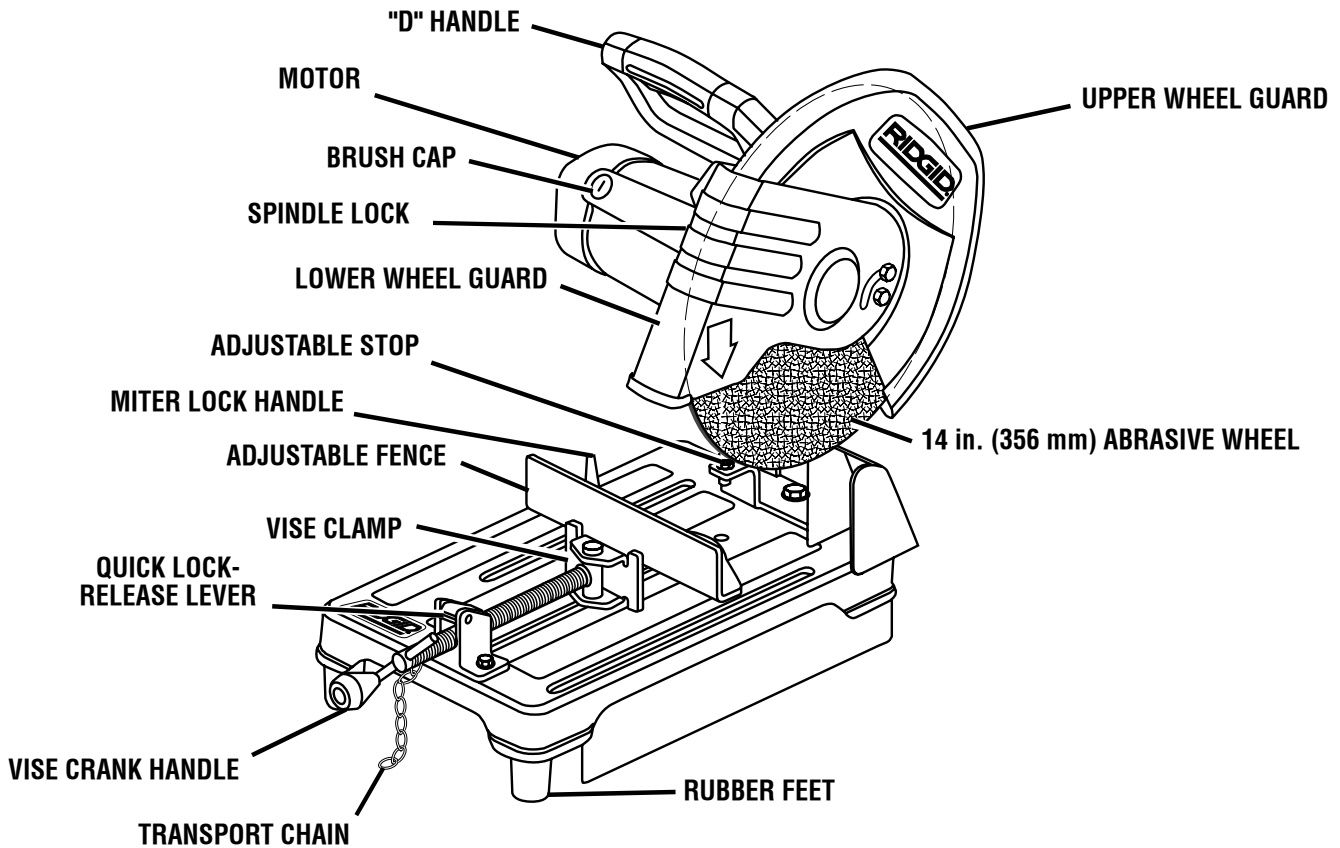

Fig. 2
See Figures 2 - 4.
- Your cut-off machine has been shipped with the machine arm locked in the down position. To release the arm, push down on top of the machine arm and remove transport chain from bottom of motor housing. *See Figure 2.* Hand